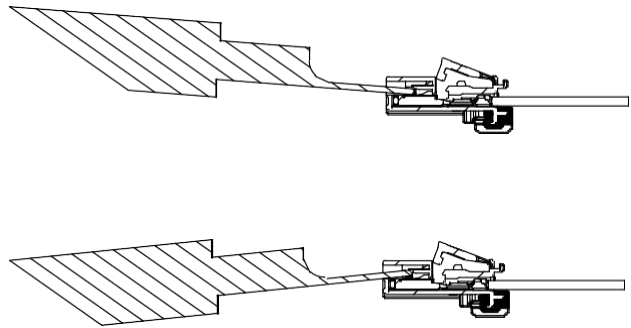

Figure 8
2. Push the wire of the contact to be removed so that the contact moves toward the mating face of the plug and cap assembly. See Figure 8, Detail A.
3. Holding the wire in place, from the mating face of the plug and cap assembly, insert the tip of General Motors Kent-Moore terminal release tool J-38125-215A (or equivalent, see note) into the circuit cavity release window of the contact to be removed, then gently rotate the tool toward the contact so that the circuit cavity locking latch moves away from the contact polarizing feature (this will release the contact). See Figure 8, Detail B.